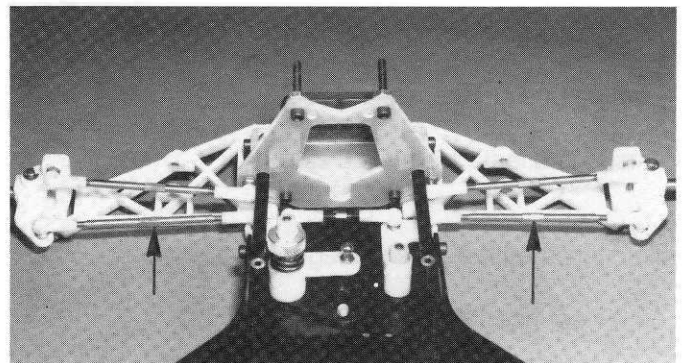

**Fig. 29**
**Figs. 29 & 30** From Bag 7-4 remove two #7315 nose brace tubes and the two short 4-40 x 1/4" SHCS and two long 4/40 x 1/2" SHCS screws as shown. We want to install the tubes so that the screw holes that are closest to the end of the tubes go towards the front of the car.